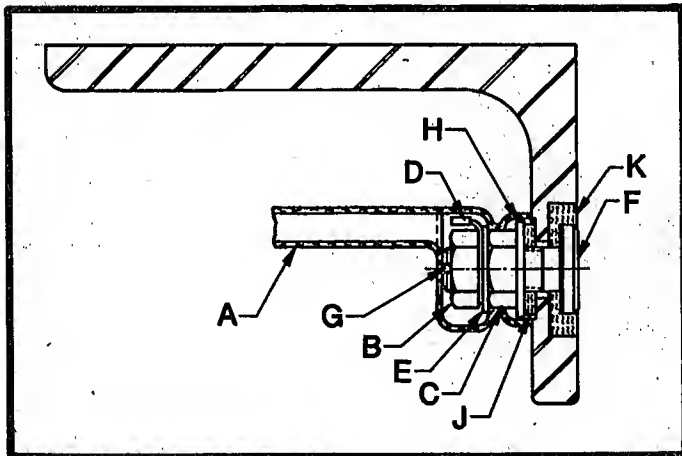

FIGURE 114
5. Remove shroud "A" to expose rear of probe assembly. Refer to Figure 114.